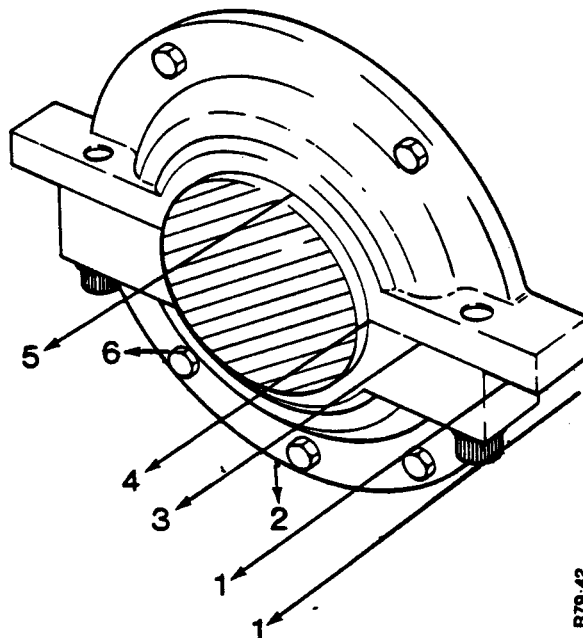

FIGURE 48 LEAK PATTERN: OIL RETAINER
5. While there is air pressure inside the crankcase move a piece of slow burning material (or a burning cigarette) around the oil seal retainer. Check for leaks as shown in Figure 48. If there are any faults, the air from the crankcase will come in contact with the burning material. When this occurs there will be an increase in the rate of burning which will show the exact position of any leakage.
1. *Leakage at Point 1 Figure 48:* Remove the engine and install new 'O' rings on the main bearing cap and new gaskets between the engine and the frame.
2. *Leakage from Points 2 to 6. Figure 48.* Remove the oil retainer from the engine. Then carefully do the following procedure.
Leakage from Point 2 Figure 48:
Leakage from Points 3 and 4 Figure 48:
Leakage from point 4. Figure 48:
Leakage from Point 5. Figure 48:
Leakage from Point 6. Figure 48: